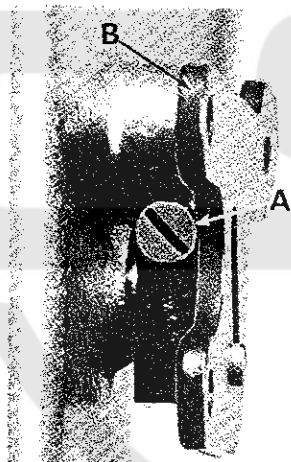
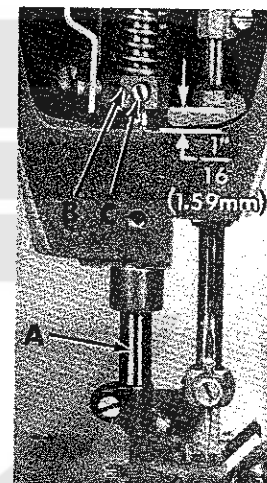

Fig. 11
Fig. 12
If adjustment is needed, loosen tension release lever screw (A, Fig. 11), located at the back of the machine and move tension disc separator as required. Retighten screw. After adjustment there should be no binding at any point.
The height of the presser bar (A, Fig. 12) is set correctly if it is possible to remove the presser foot when the foot lifter lever (B, Fig. 11) is fully depressed. Also, there should be approximately 1/16 inch (1.59 mm) clearance between lower surface of the presser bar connection and guide (B, Fig. 12) and the bottom surface of head opening in the bed when the foot lifter lever is released and the presser foot resting on the throat plate, with the feed dog down below the throat plate.
If adjustment is needed, turn hand-wheel in operating direction until the needle bar is in the low position. Loosen screw (C, Fig. 12). Then, while holding presser foot down on the throat plate surface, pry up presser bar connection and guide with a screwdriver to obtain the 1/16 inch (1.59 mm) setting and tighten screw (C). Check setting by turning handwheel so that needle bar is in its high position and see if presser foot can be removed as mentioned in previous paragraph.